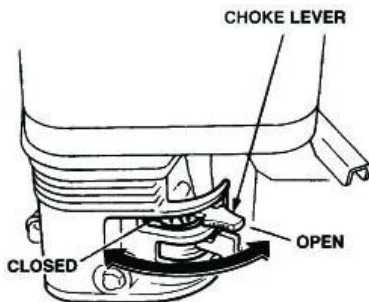

Figure 11. Choke Lever
3. Place the *Choke Lever* (Figure 11) in the "OPEN" position.